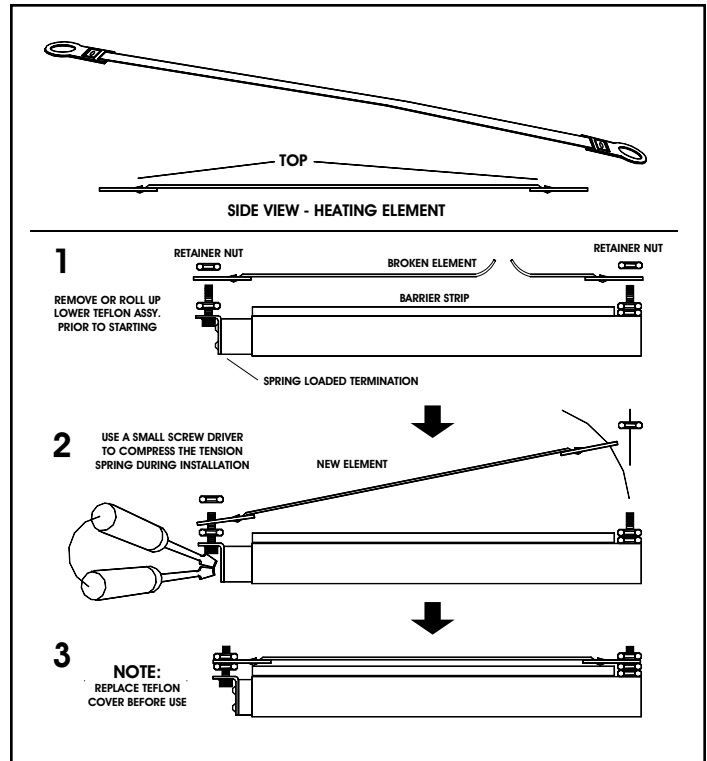

Figure 9: Replacing heating element
1. Loosen the two clamp mounting screws and rotate the roller knobs to rewind the Teflon® onto the roller to expose the heating element. (See Figure 9)
NOTE: The heating element has a top and a bottom. See Figure 9 for proper positioning and installation.